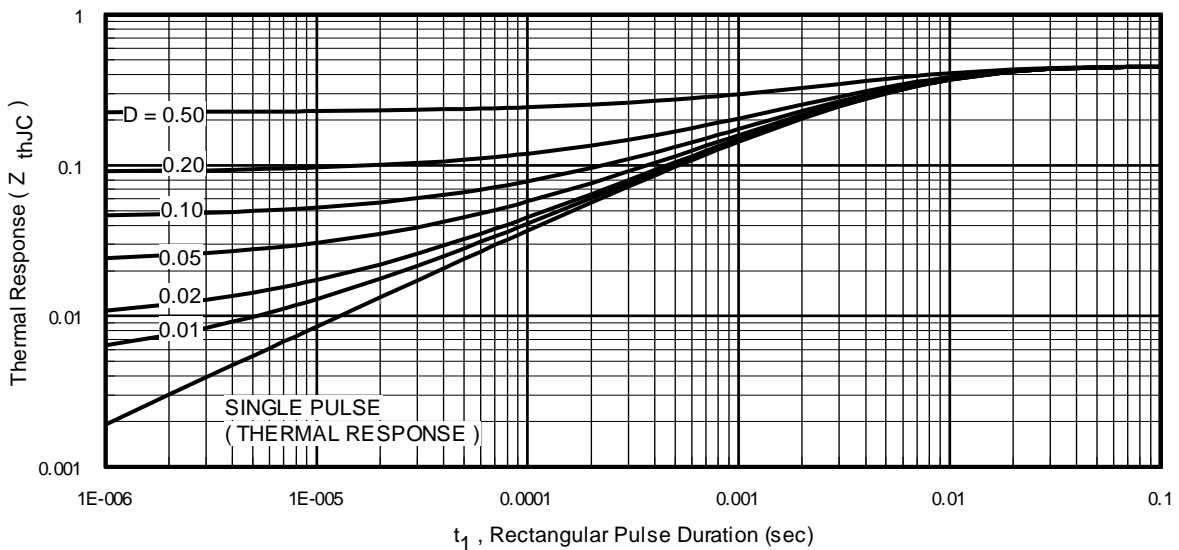
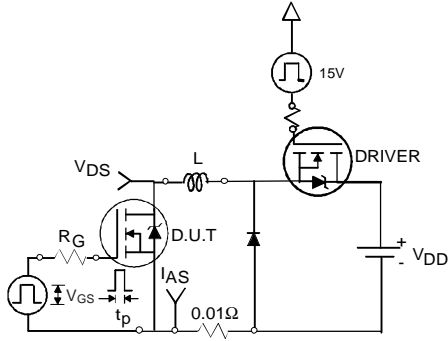

Fig 11. Maximum Effective Transient Thermal Impedance, Junction-to-Case
Fig 12a. Unclamped Inductive Test Circuit
- ① Repetitive rating; pulse width limited by max. junction temperature. (See fig. 11).
- ② Limited by T_{Jmax} , starting $T_J = 25^\circ\text{C}$, $L=0.24\text{mH}, R_G = 25\Omega, I_{AS} = 75A, V_{GS} = 10V$. Part not recommended for use above this value.
- ③ $I_{SD} \leq 75A, di/dt \leq 220A/\mu s, V_{DD} \leq V_{(BR)DSS}, T_J \leq 175^\circ\text{C}$.
- ④ Pulse width $\leq 1.0\text{ms}$; duty cycle $\leq 2\%$.
- ⑤ $C_{oss\ eff.}$ is a fixed capacitance that gives the same charging time as C_{oss} while V_{DS} is rising from 0 to 80% V_{DSS} .
- ⑥ Limited by T_{Jmax} , see Fig.12a, 12b, 15, 16 for typical repetitive avalanche performance.
- ⑦ This value determined from sample failure population. 100% tested to this value in production.
- ⑧ This is applied to D²Pak, when mounted on 1" square PCB (FR-4 or G-10 Material). For recommended footprint and soldering techniques refer to application note #AN-994.
- ⑨ Max $R_{DS(on)}$ for D²Pak and TO-262 (SMD) devices.
3. Equation below based on circuit and waveforms shown in Figures 12a, 12b.
$Z_{thJC}(D, t_{av})$ = Transient thermal resistance, see figure 11)